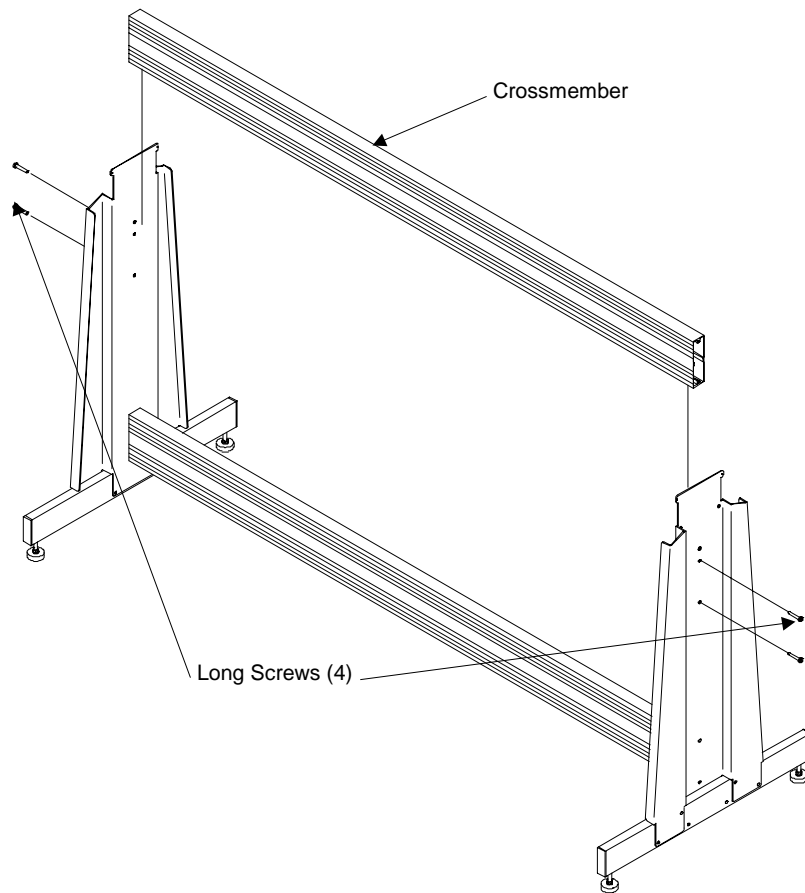

Figure 5. Attaching the Top Crossmember to the Stand Legs
- Use two of the long screws and the hex wrench to attach each end of the top crossmember to the stand legs. Refer to Figure 5.